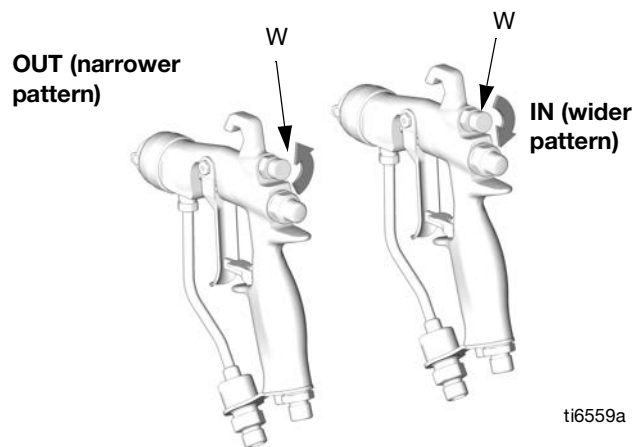

FIG. 6. Pattern Air Adjustment
- See FIG. 6. Close off pattern adjustment air by turning knob (W) clockwise (in) all the way. This sets gun for its widest pattern.
See FIG. 6. For narrower pattern, turn pattern adjustment valve knob (W) counterclockwise (out). If pattern is still not narrow enough, increase air pressure to gun slightly or use different size tip.